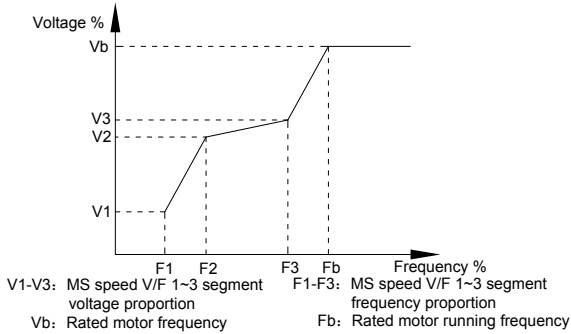

Fig. 5-4 Multi-Foint V/F curve setuF schematic diagram
1) It must be set as follows: $V1 < V2 < V3$, $F1 < F2 < F3$. Fig.5.4 is schematic diagram for multi-Point V/F curve.